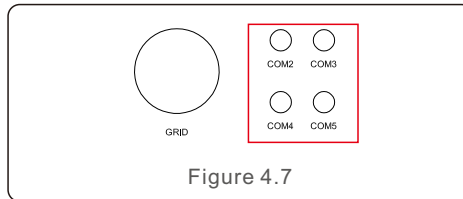

Figure 4.7
- Remove the cap nut from the waterproof cable glands labeled at the bottom of the inverter. Remove the plug from the fitting. (see Figure 4.7).